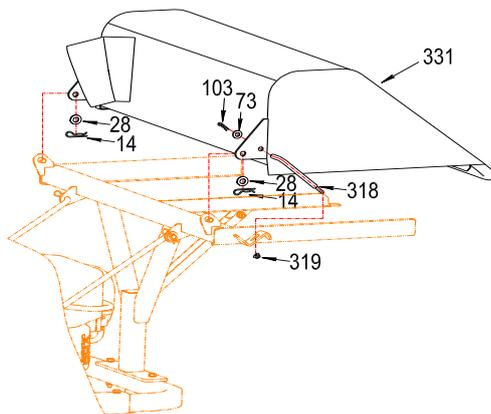

FIG 5
- Insert the top end of hood stop rod into the hole in catcher hood tab. Install Part No. 73 and 103 (washer and cotter pin). (FIG 5)